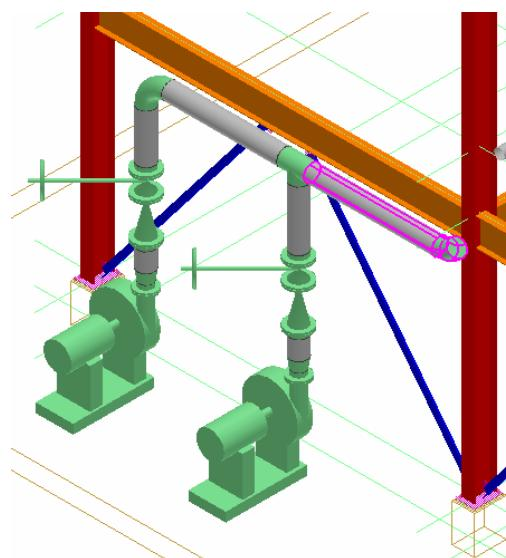

Figure 5: Remaining Selected Part of Pipeline 1001-P
10. Now select the remaining pipe parts belonging to **1001-P**, as shown in Figure 5.